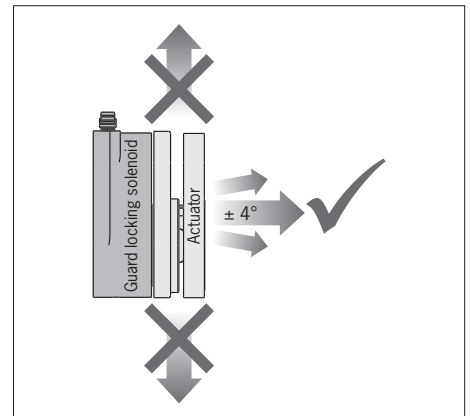

Figure 1: Approach direction
- ▶ When the safety door is opened, the actuator must be moved away from the guard locking solenoid toward the front (see Figure 1).